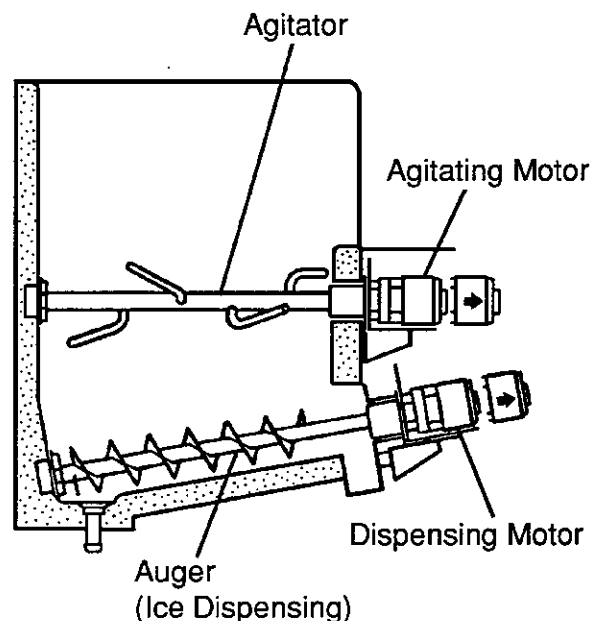

Fig. 4
- 2) Remove the thumbscrews first from the vertical plane and then from the horizontal plane of the Motor Brackets. Move the Agitating Motor(s) and the Dispensing Motor toward you. Then remove the Agitator(s) and the Dispensing Auger. See Fig. 4.